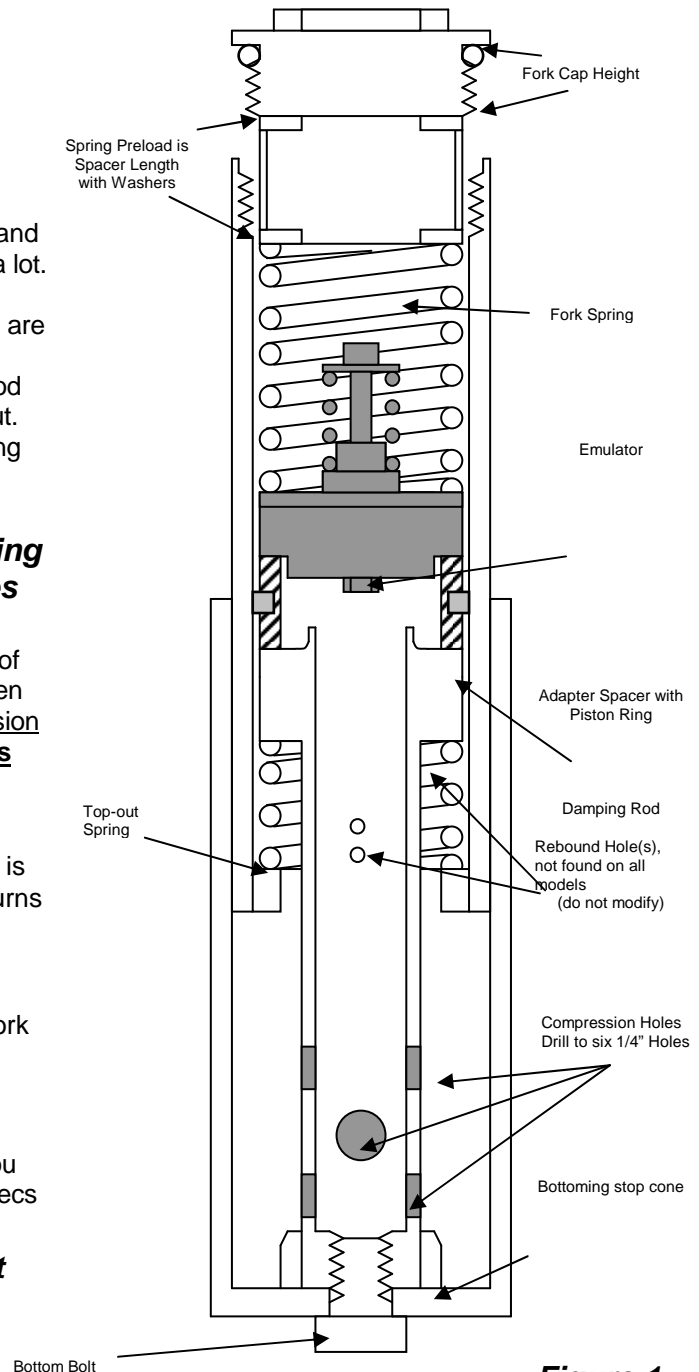

Figure 1
- 2 Drill the existing compression holes in the damping rod to 1/4 inch (6 mm) so you end up with Six holes (3 sets of 2 holes) (figure 1).** When drilling new holes, space them axially (lengthwise) at 10 mm (7/16") increments. Each set of two holes must be perpendicular to the last set so as not to weaken the rod (figure 1). After drilling, chamfer and deburr the compression holes, inside and out. **Do not add or enlarge the rebound holes and leave their edges sharp.**
- a. Drop the Emulator down the tube, It sits on top of the adapter spacer & damping rod with the Emulator Valve Spring facing up and is held in place with the main fork spring. Refer to figure 1. Visually check to make sure the Emulator is sitting squarely on top of the damping rod.
- c. Set the fork cap on the washer and determine the preload by measuring from the top of the fork tube to the sealing lip on the fork cap (see figure 1). This is a direct measurement of fork spring preload. Shorten the spring spacer tube to achieve the proper preload.